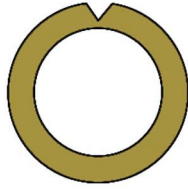

Figure 1
- **Step 1** Using a sharp hobby knife, cut a "V" notch in the outside diameter of the TB-7 thrust block, as shown in Figure 1. Be careful not to slice completely through the ring (or your finger...).